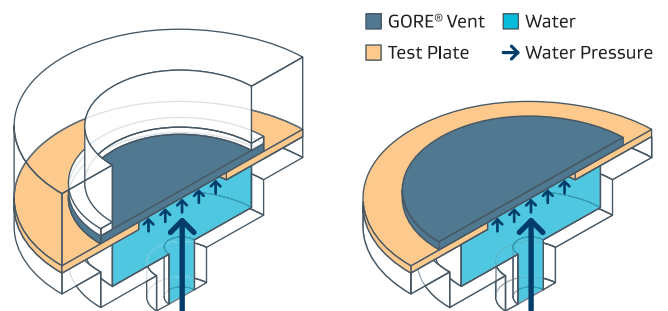

Figure 3:
1. A compression plate as shown in Figure 3 is required for high pressure (≥ 5 bar) eWEP testing, but not required for IPx7/IPx8 (1 to 5 meters of water) as shown in Figure 4.